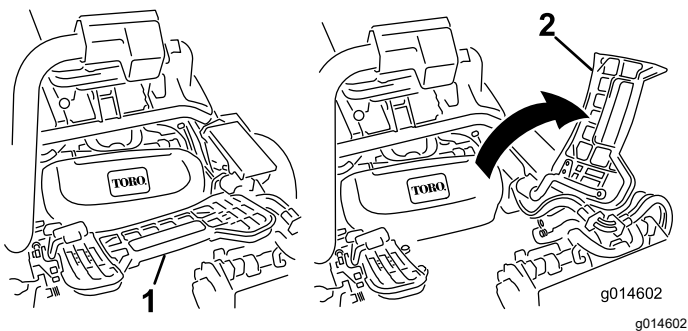

Figure 59
2. Lift up on the foot rest and swing it open, allowing access to the center cutting unit position (Figure 59).